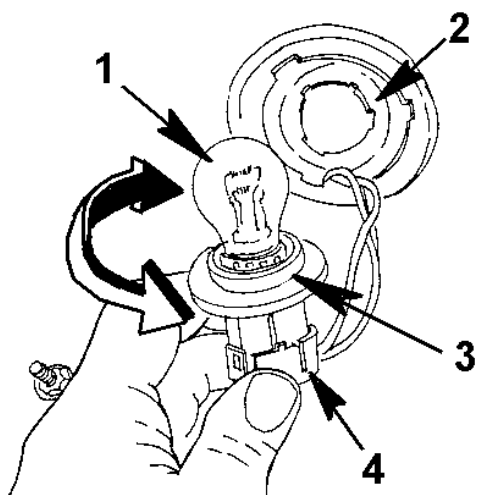

Figure 60 Directional Bulb Replacement
- 7. Insert bulb (Figure 60, Item 1) and socket assembly in light housing and twist to lock bulb in socket seat.